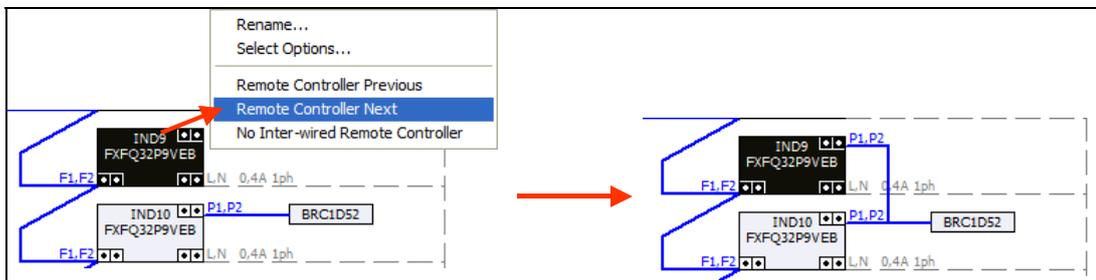

Figure 98: Sharing a remote controller between two indoor units
- Right-click indoor unit Ind9 again and select the "**Remote Controller Next**" command, as shown in Figure 98. This connects indoor unit Ind9 to indoor unit Ind10, sharing its remote controller.